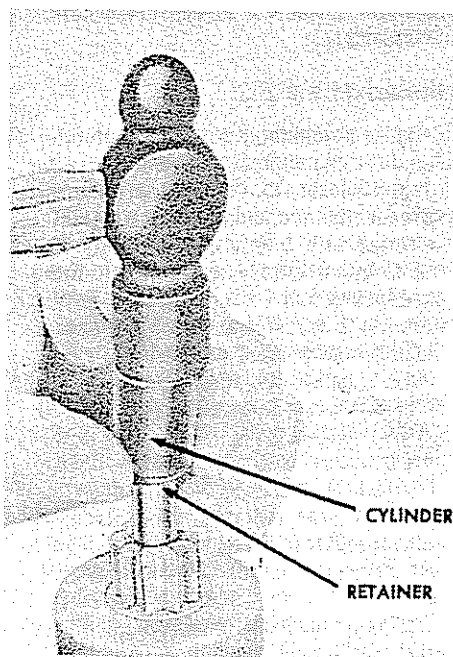

Figure 4—Removing retainer from snap ring.
6. Remove the clutch from the armature by sliding a metal cylinder onto the shaft; with a hammer striking the metal cylinder against the retainer, drive the retainer toward the armature core and off the snap ring (Fig. 4).